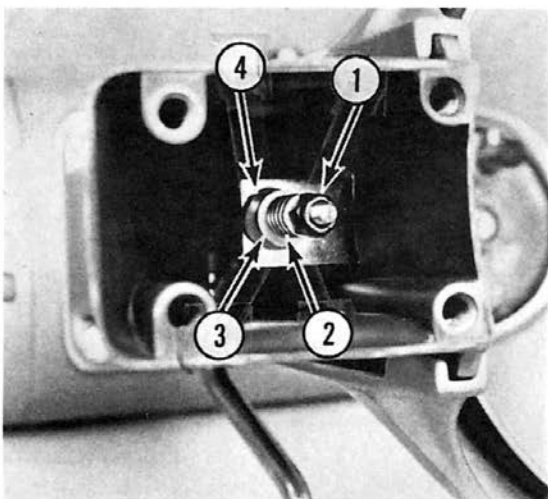

Fig. 5-2
- B. With a socket wrench, remove the elastic stop nut (1, Fig. 5-2), spring (2, Fig. 5-2), washer (3, Fig. 5-2) and "V" washer (4, Fig. 5-2).